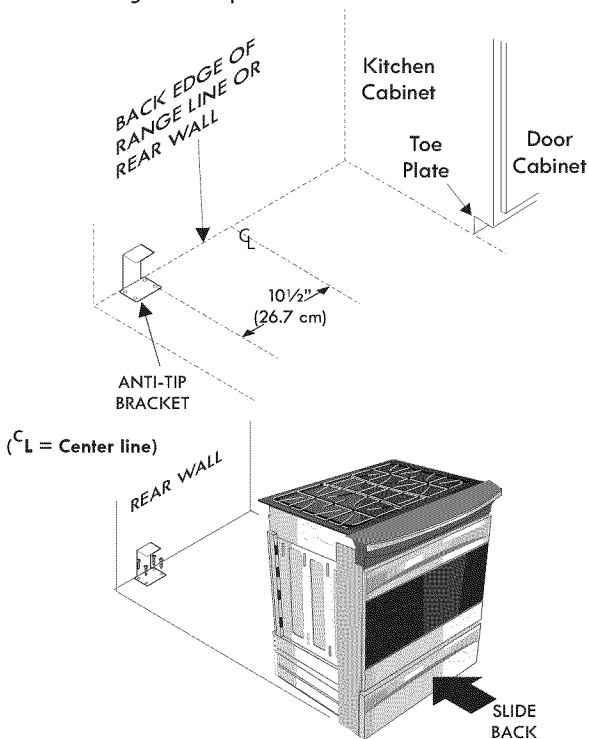

Figure 15
2. Unfold paper template and place it flat on the floor with the right rear corner positioned exactly on the intersection of the center and back lines you just drew before. (Use the diagram below to locate brackets if template is not available (Figure 15)).
4. Remove template and place bracket on floor. Line up holes in bracket with marks on floor and attach with 4 screws provided. Bracket must be secured to solid floor (Figure 15). If attaching to concrete floor, first drill 3/16" (0,48 cm) dia. pilot holes using masonry drill bit.
6. Slide range into place making sure structure of the range is trapped by the anti-tip bracket (Figure 15). Lower the range by adjusting the 4 leveling legs until the underside of the cooktop is sitting level on the countertop. Refer to "Leveling the Range" section.